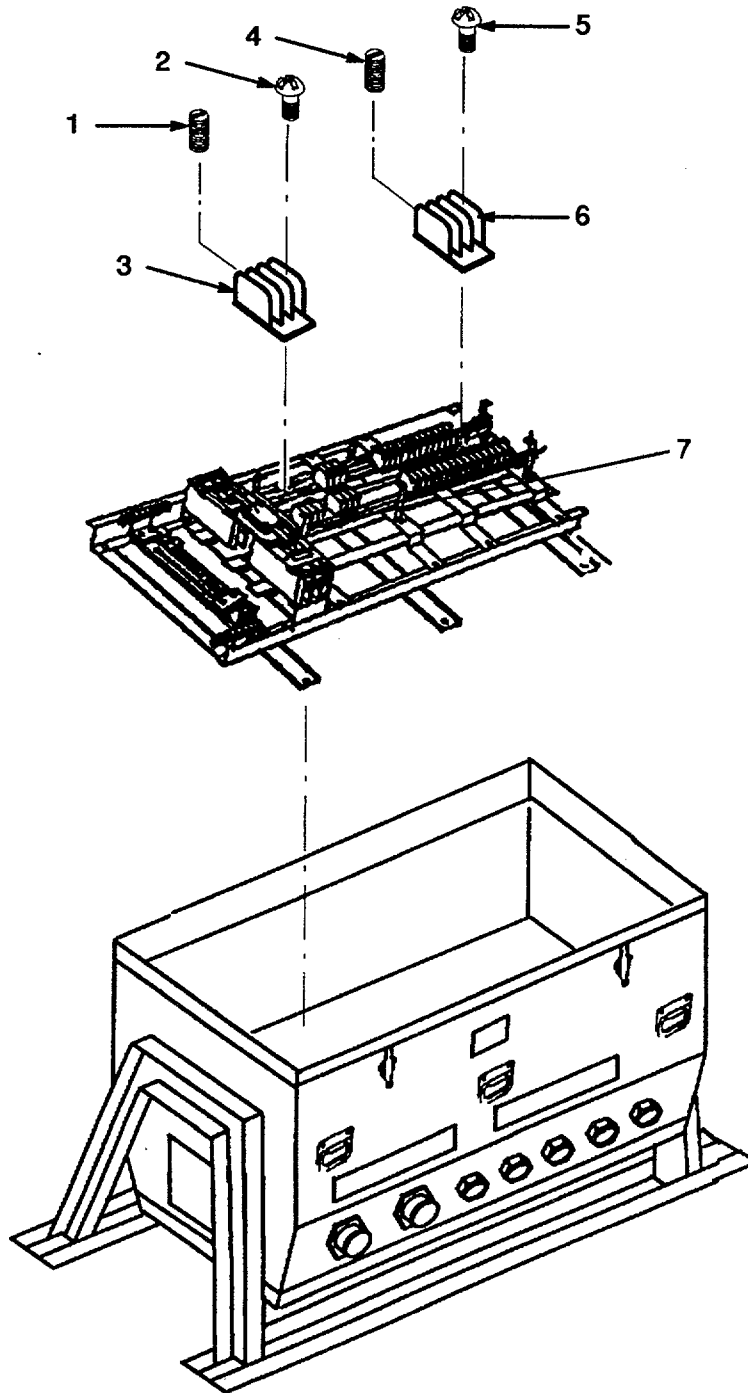

Figure 4-8. Circuit Breaker Removal.
- (1) Tag and identify leads.
- (2) Loosen three screws (1, Figure 4-8) and remove leads.
- (3) Remove three screws (2).
- (4) Raise circuit breaker (3) approximately 35 degree angle and remove from under breaker mounting rail (7).
- (5) Remove three remaining circuit breakers, repeat steps a (1) through (4) above.
- (2) Loosen three screws (4, Figure 4-8) and remove leads.
- (3) Remove three screws (4).
- (4) Raise circuit breaker (6) approximately 35 degree angle and remove from under breaker mounting rail (7).
- (5) Remove nine remaining circuit breakers, repeat steps (1) through (4), above.